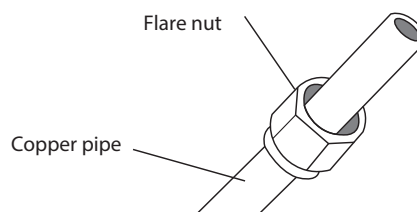

Fig. 7.7
- Place flare nuts on both ends of pipe. Make sure they are facing in the right direction, because you can't put them on or change their direction after flaring. See Fig. 7.7